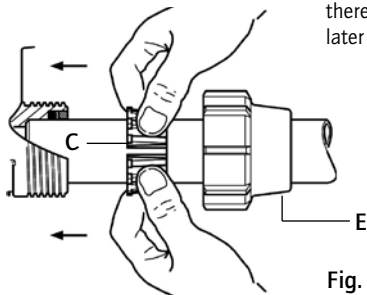

Fig. 4
- Bevel the end of the pipe and slide on nut (Fig. 4-E) and then ferrule (Fig. 4-C).
- Slide pipes into water inlet and outlet (Fig. 4) as far as they will go.
- Push one ferrule (Fig. 4-C) against the inlet and the other against the outlet.
- Tighten the nuts (Fig. 4-E).
- Then place the ferrules over the pipe using both thumbs in the slot to widen the ferrule (Fig. 4-C) and avoid scraping off the adhesive, then tighten the nut.